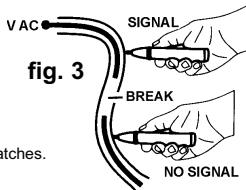

fig. 3
- 4.3. Insulated cores may be checked for breaks (fig. 3), but note that each core tested **MUST** be individually connected to a detectable voltage.